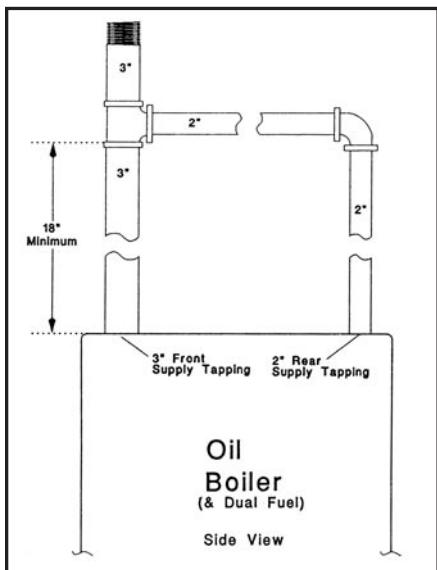
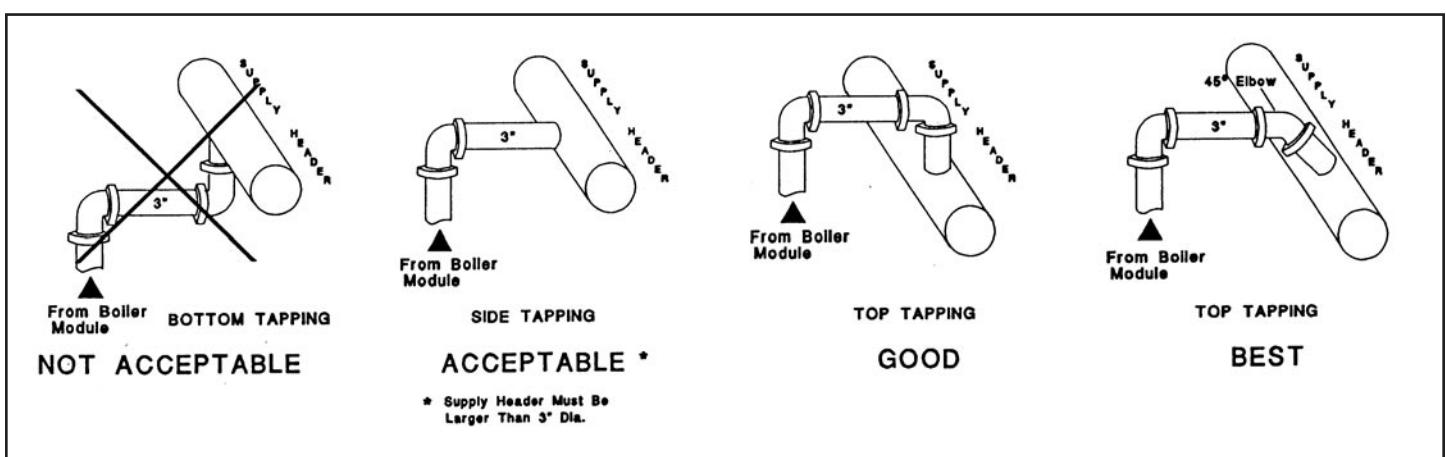

Figure 10: Steam supply header at oil modules
Figure 9: Steam supply header piping
piping arrangement. Figure 9 shows the piping arrangement between the module and header connections. In this area, try to keep the number of elbows to a minimum (maximum 3). It is important to note that a pressure difference of as little as one ounce (1/16 PSI) between modules will result in a water level difference of almost 2 inches.
4. 2" rear supply tap on module must be piped into the 3" front supply pipe as shown in Fig. 10 on page 10 to minimize pressure drop, no more than three 90° elbows should be installed between the module supply tapping and steam header (See figure 9, page 10)
6. To prevent accumulation of condensate, steam headers should be pitched down in the direction of steam flow and toward the equalizer/drain with no reduction in size. Module connections must be on the side of the header (horizontal) or at any angle between the side and top of header, never between the side and bottom. To prevent condensate in the header from re-entering the boiler supply pipe, side connections must enter a header that is at least one size larger than the boiler supply connections. Top or 45° top-angle connections are preferred and can enter a header of the same size or larger. See Figure 9. The supply header for each module should be sized according to Figure 10, page 10.